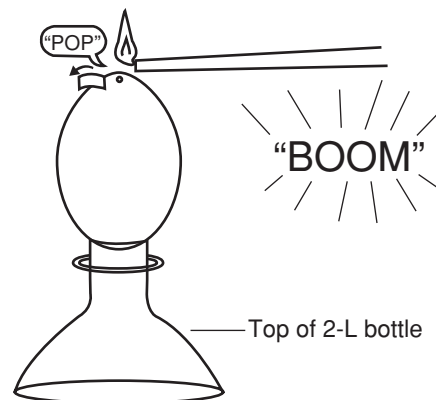

Figure 2.
4. Using the top portion of the soda bottle as a support, stand the egg in an upright position with the taped hole on top behind a safety shield (see Figure 2).